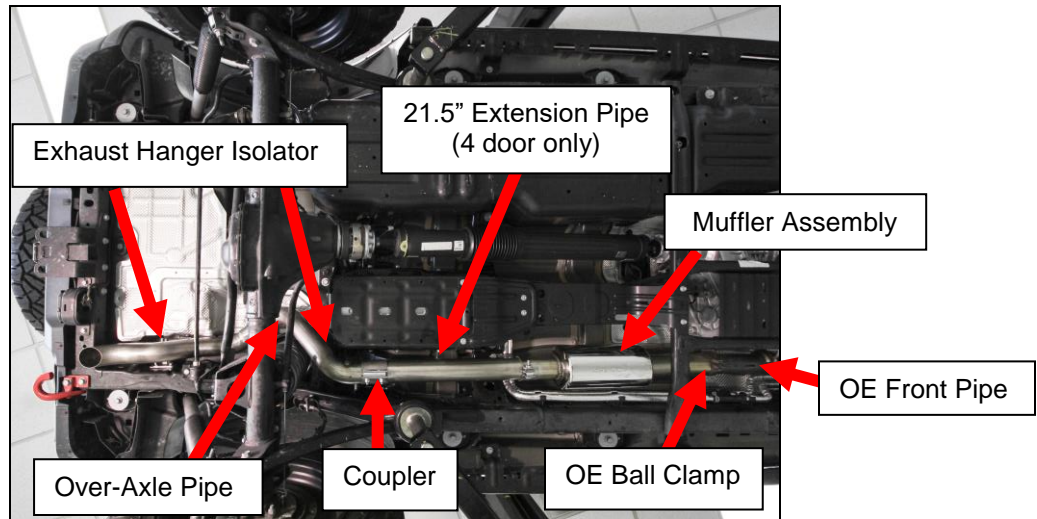

Figure 2
1. Install the Blackheart muffler onto the OE front pipe reuse the OE ball clamp. **NOTE: The Hooker logo on the muffler will be pointing down to the ground (Figure 2).**